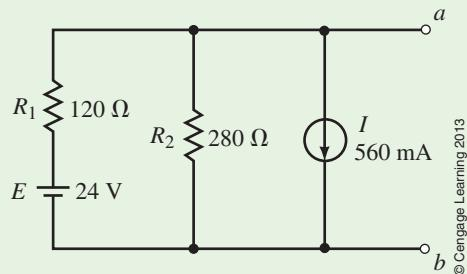

FIGURE 9-39
- a. **Steps 1 and 2:** After removing the load, (which consists of a current source in parallel with a resistor), we have the circuit of Figure 9-39.